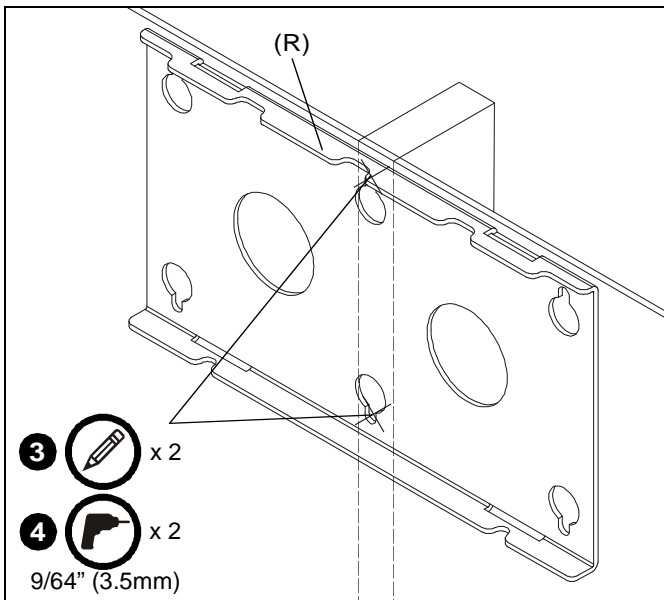

Figure 1
3. Using wall bracket (R) as a template, mark hole locations at center of wood stud at desired mounting height. Use a level to ensure mount will be level. (See Figure 1)
4. Drill two 9/64" (3.5mm) holes at marked locations. (See Figure 1)